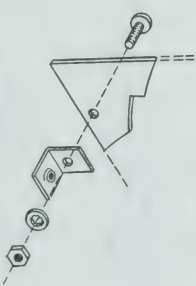
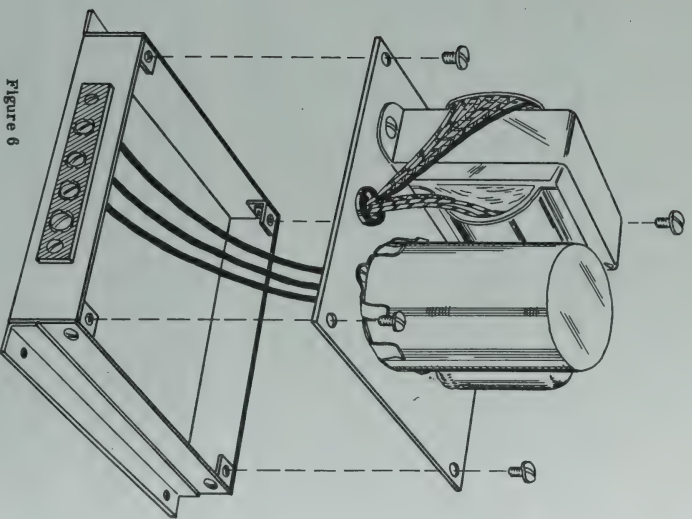

Figure 5
Figure 6
- (1) Mount a small angle bracket at each corner of the chassis base using 6-32 x 3/16 screws, lockwashers and nuts. The threaded holes in the angle brackets should be toward the open top of the chassis base. See Figure 5.
- (2) Connect a short insulated jumper between AA2 (NS) and AA4 (S).
- (3) Lay the wired chassis on its side with the three loose wires extending toward you and over to the chassis base. See Pictorial 3 on Page 8.
- (4) Connect the wire coming from E1 to AA1 (S).
- (5) Connect the wire coming from E2 to AA2 (S).
- (6) Connect the wire coming from E3 to AA3 (S).
- (7) Place the chassis top over the chassis base as shown in Figure 6 on Page 10, slowing the wires just attached inside the base so they do not interfere with proper seating of the chassis top plate. Secure the top plate with four 6-32 x 1/4" binder head screws at the corners.
- (8) Strip the backing from the adhesive label and place the label on the side of the chassis base above terminal strip AA.
- (9) Insert the 12X4 tube in socket A and the vibrator in socket B.